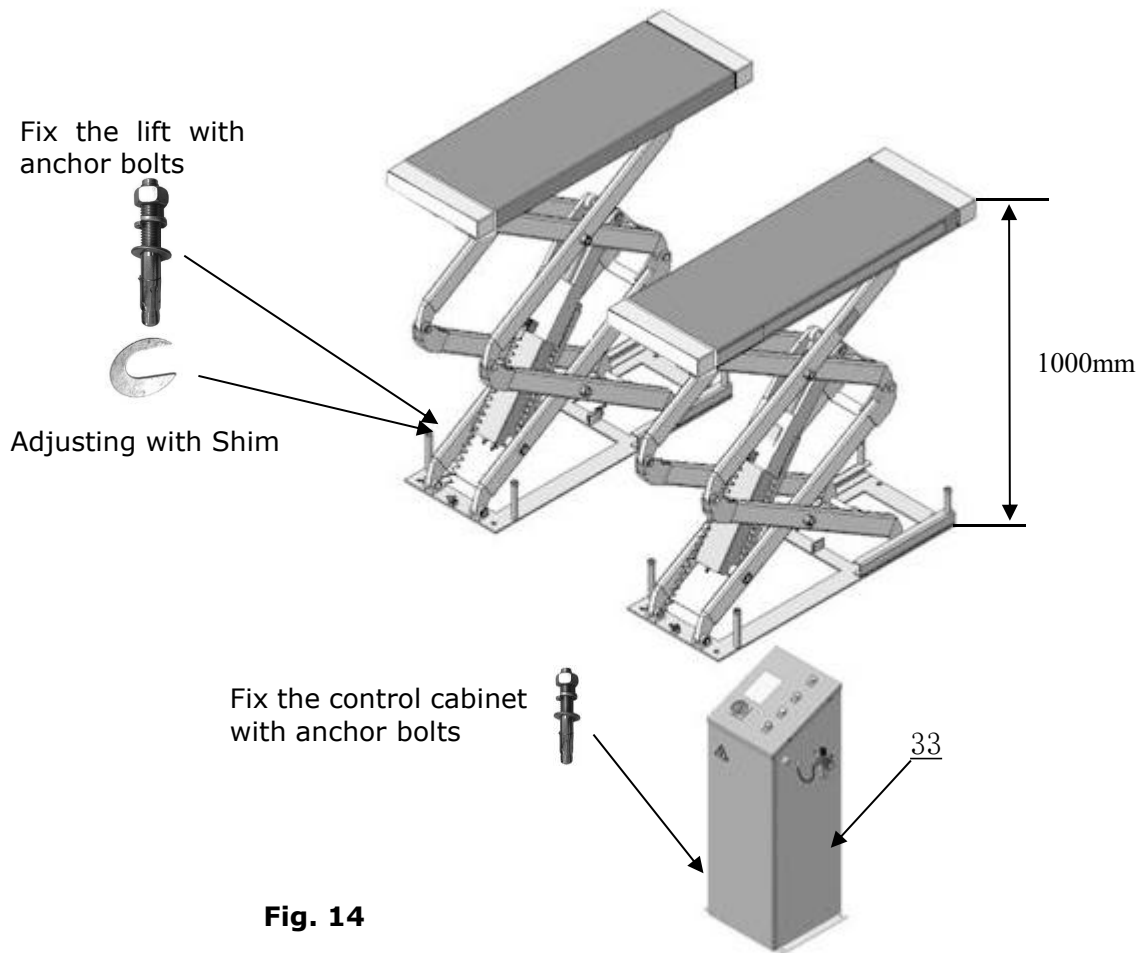

Fig. 14
2.1 Raise the lift to 1000mm then drill holes to install the anchor bolts (**See Fig.14**).